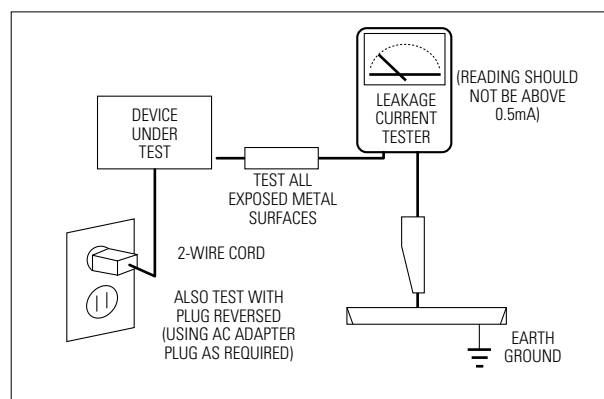

Fig. 1-1 AC Leakage Test
4. Leakage Current Hot Check (Figure 1-1):